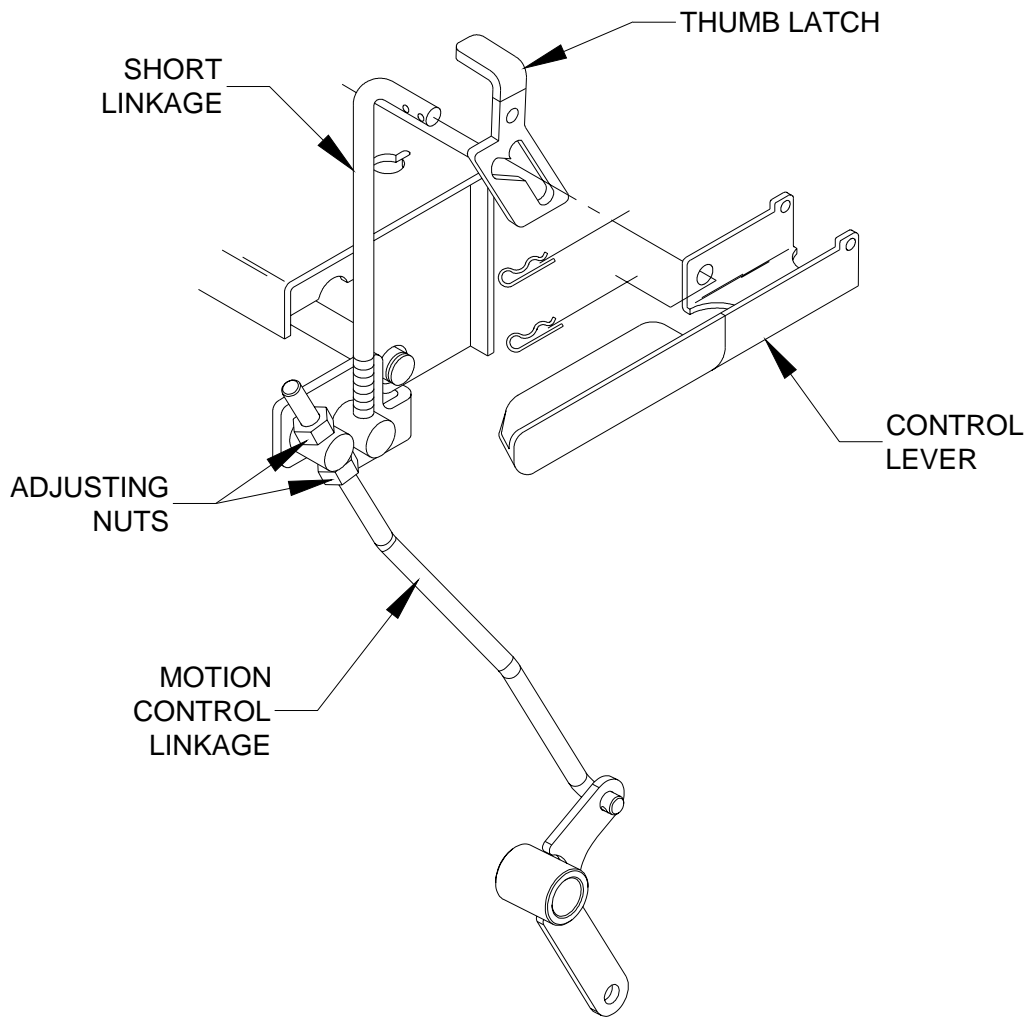

FIGURE 2
4. Turn the adjusting nut the proper direction until the wheel stops rotating. This is your neutral position, repeat on the other side. (See Figure 2.)
5. After the neutral position is adjusted. You will need to readjust the short linkage. (See Figure 2.)
6. Remove the two hairpins, swing the linkage out of the control lever and the thumb latch. (See Figure 2.)